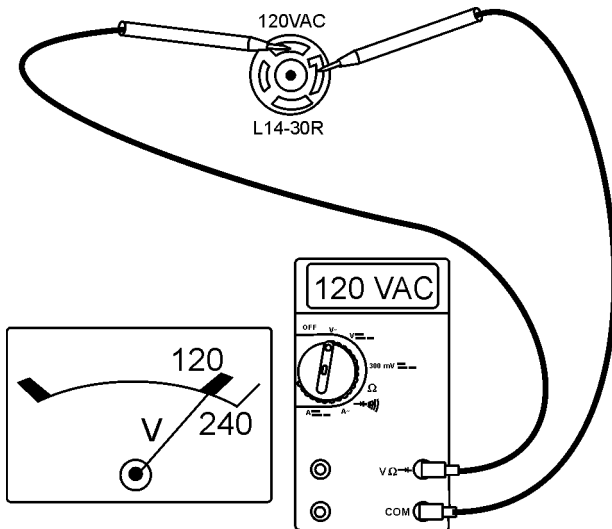

Figure 23. 120/240V Receptacle (120V)
16. The L14-30R receptacle is a dual voltage receptacle (120-240 volts). Reference Figures 23 and 24 to verify voltages at this receptacle.